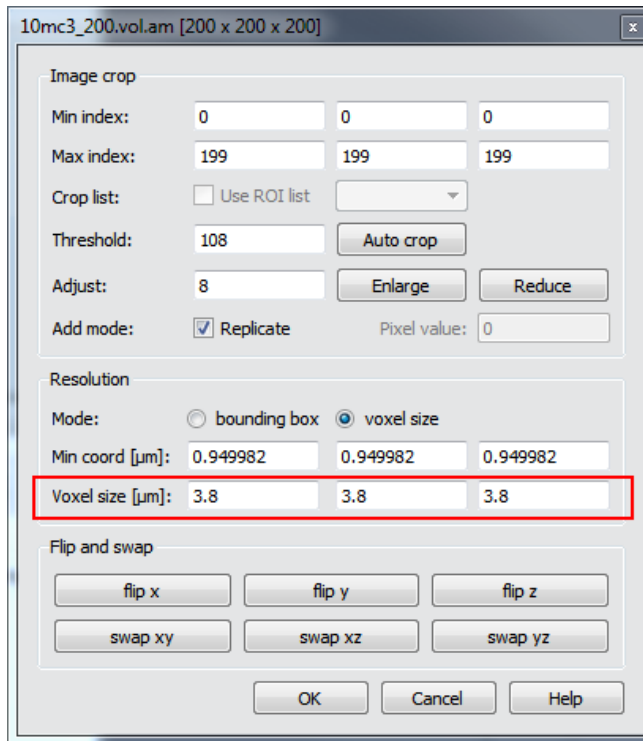

Figure 12.8: Fields to fill to modify the voxel size in the *Crop Editor*.
- The voxel size of the data set can be modified in the dialog that appeared (see Figure 12.8).